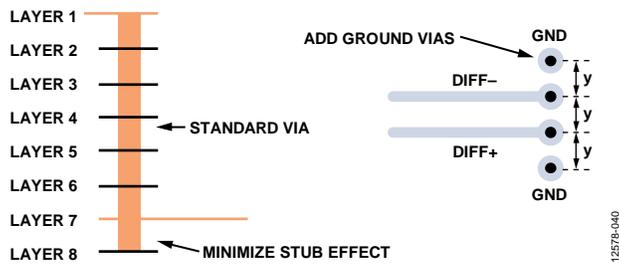

Figure 67. Minimizing Stub Effect and Adding Ground Vias for Differential Stripline Traces
- If using standard vias, use the maximum via length to minimize the stub size. For example, on an 8-layer board, use Layer 7 for the stripline pair (see Figure 67).
- For each via pair, place a pair of ground vias adjacent to them to minimize the impedance discontinuity (see Figure 67).